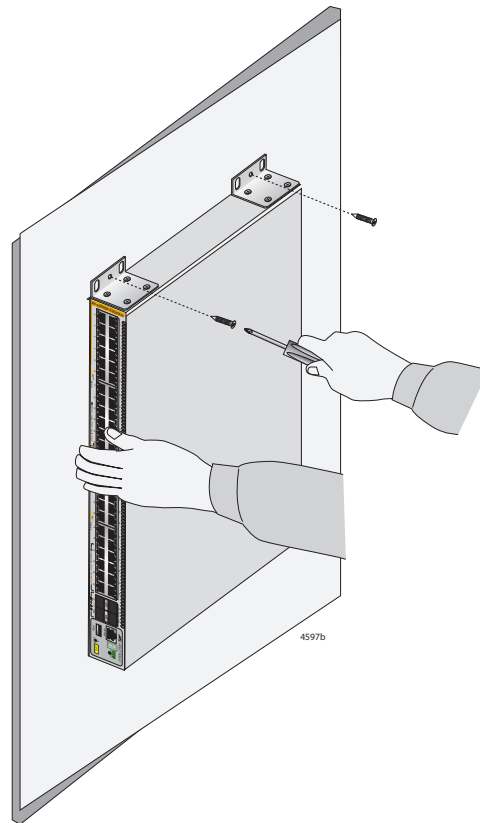

Figure 10. Installing the Switch on a Concrete Wall
7. Have another person hold the switch at the selected wall location while you secure it to the wall with the M4x32mm screws provided. Refer to Figure 10.